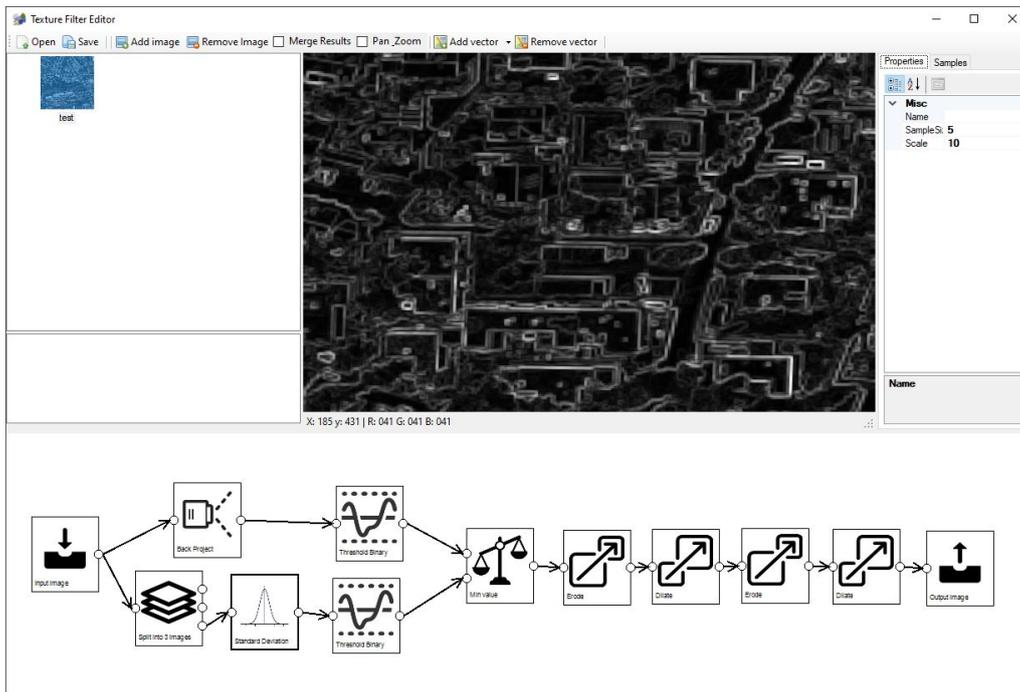

Figure 6.18: Calculating the standard deviation of blue channel of the input image
5. Calculate the standard deviation of the blue channel, a sample size of 5 and a scale of 10 is used. See Figure 6.18.